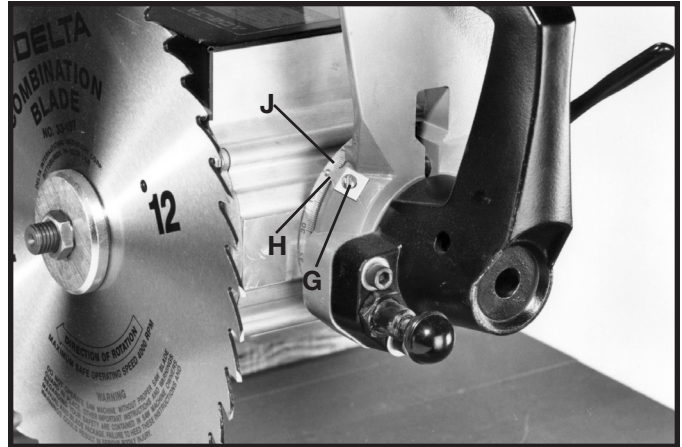

Fig. 47
9. Loosen screw (G) Fig. 47. Move pointer (H) to zero mark on the bevel scale (J). Tighten screw (G).